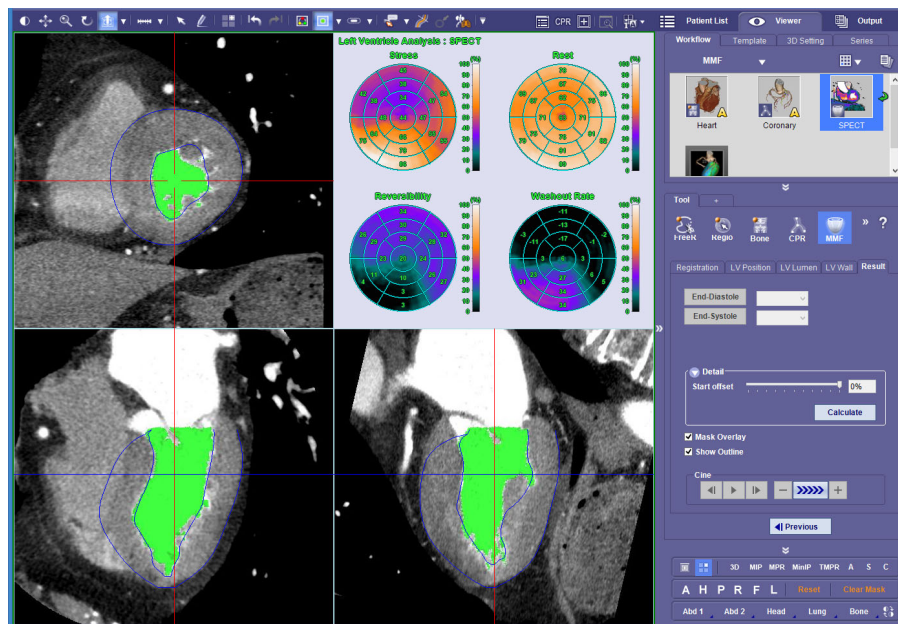

Figure 20-4: Analysis on SPECT Data
The results are displayed in the final step, as shown in Figure 20-4.
- SPECT Polar maps - The SPECT polar maps show the counts or percentages in the SPECT data, as seen in Figure 20-4.